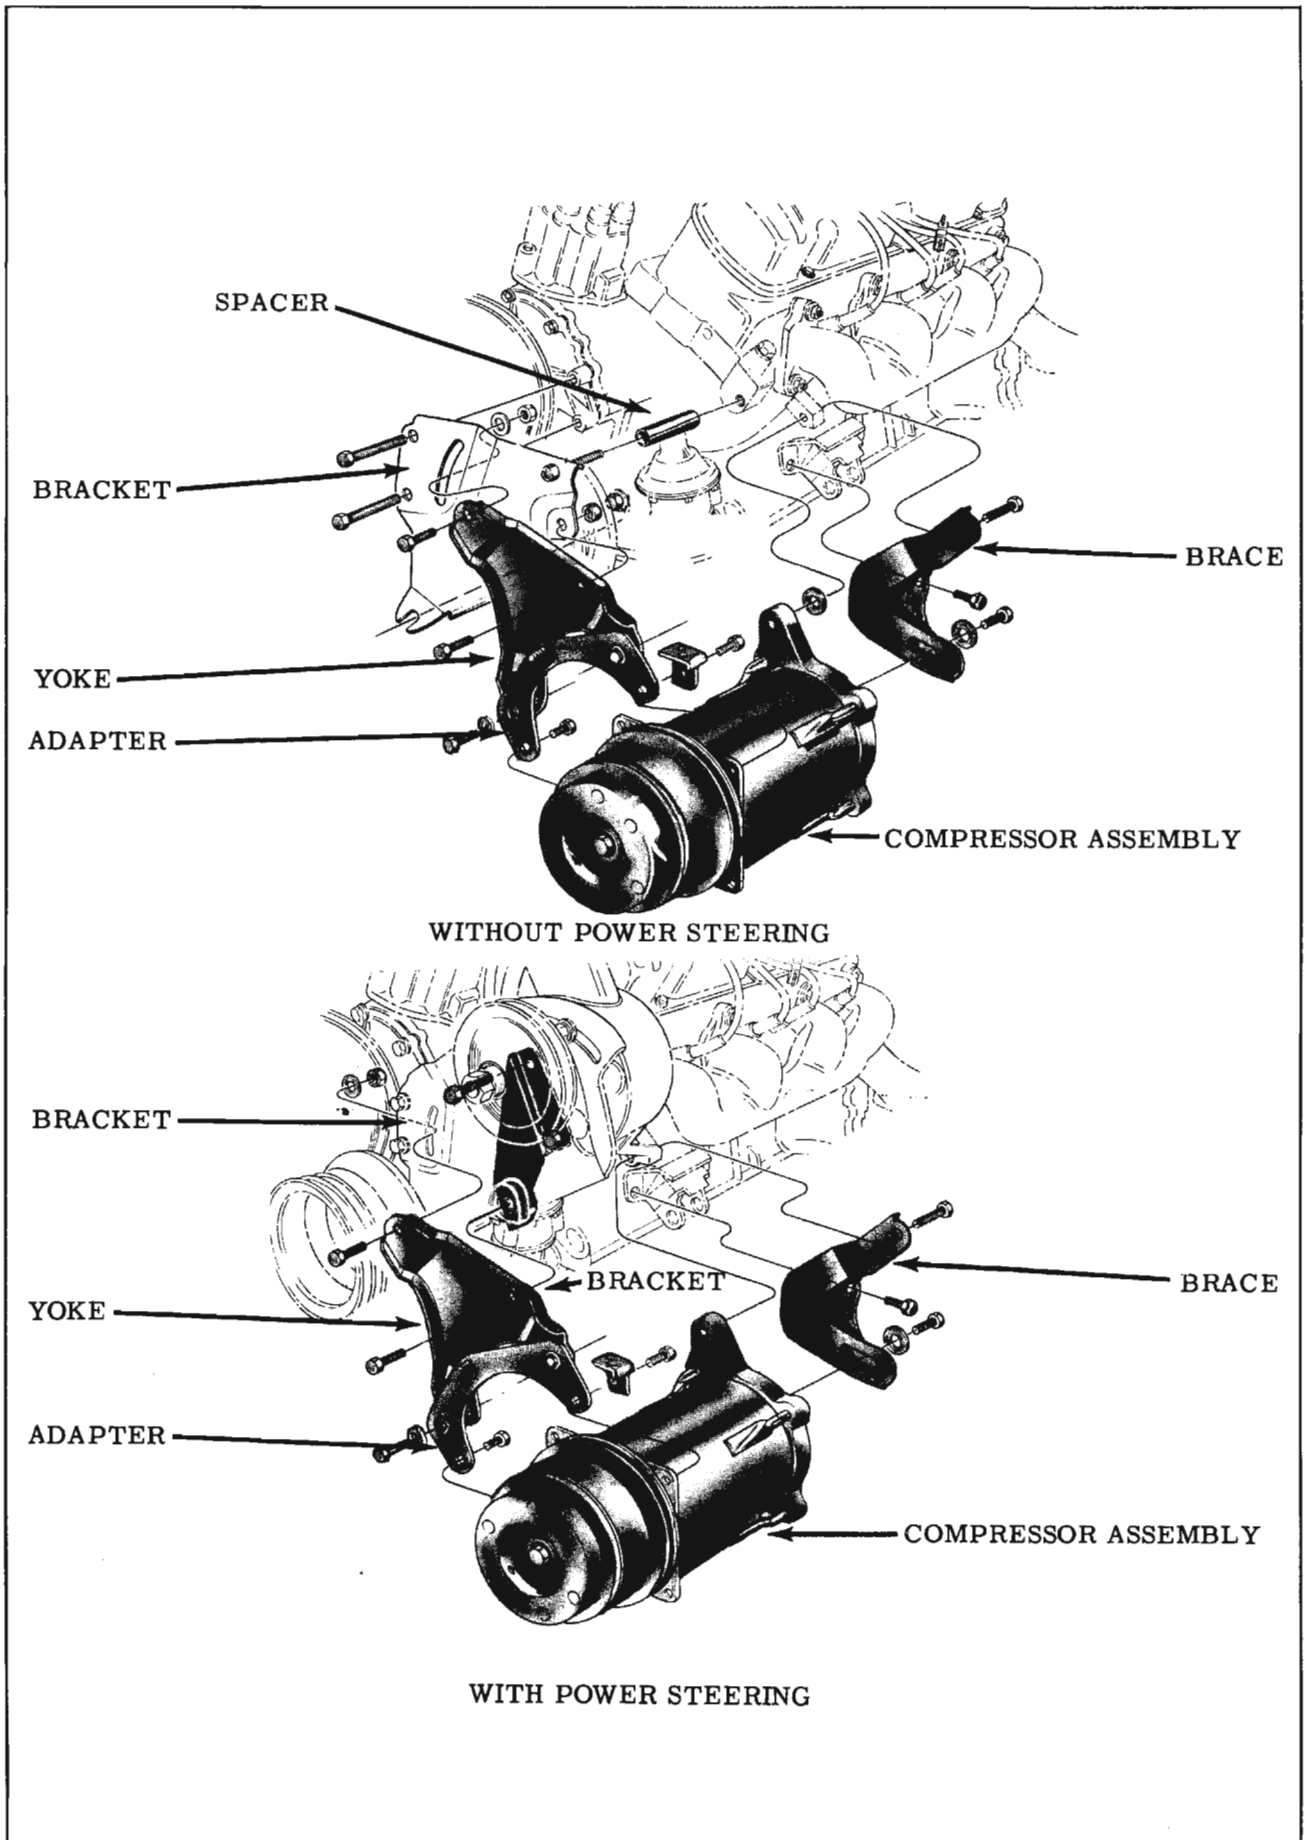

Fig. 15-136 Compressor Mountings
4. Remove two power steering pump to front bracket nuts. Remove pump to rear bracket nut. (Fig. 15-136)
6. Raise car and remove front and rear compressor pivot bolts and adjusting bolts. Leave compressor front adapter and yoke assembly attached to the compressor. (Fig. 15-136)